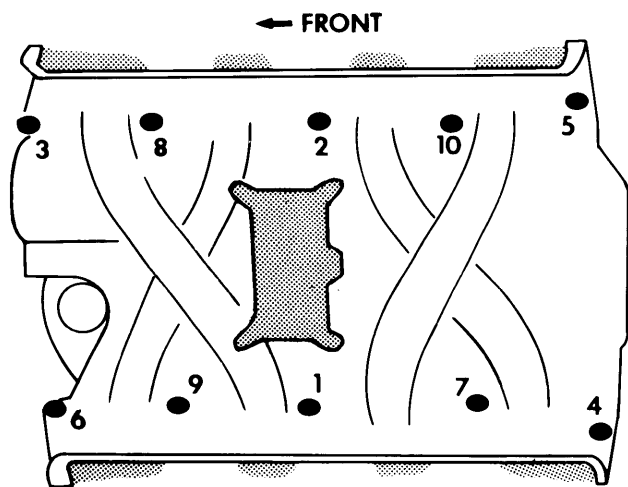

Fig. 2 Tightening Sequence for Intake Manifold
4) Be sure holes in gaskets and intake manifold are in alignment. Coat underside of head of each manifold retaining bolt with non-hardening sealer prior to installation. Install retaining bolts and torque bolts in sequence shown in Fig. 2.